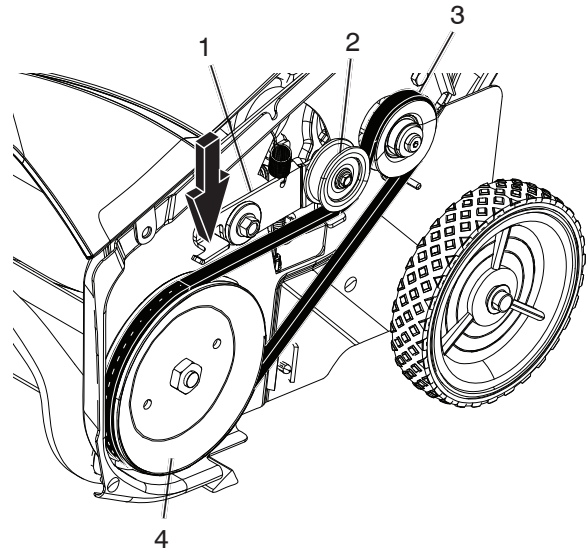

Figure 31
4. Install the new drive belt, routing it as shown in (Figure 31).
NOTE: Route the new drive belt first around the engine pulley, then the idler pulley, and finally around the drive pulley while pressing down on the front of the idler arm. (Figure 31).